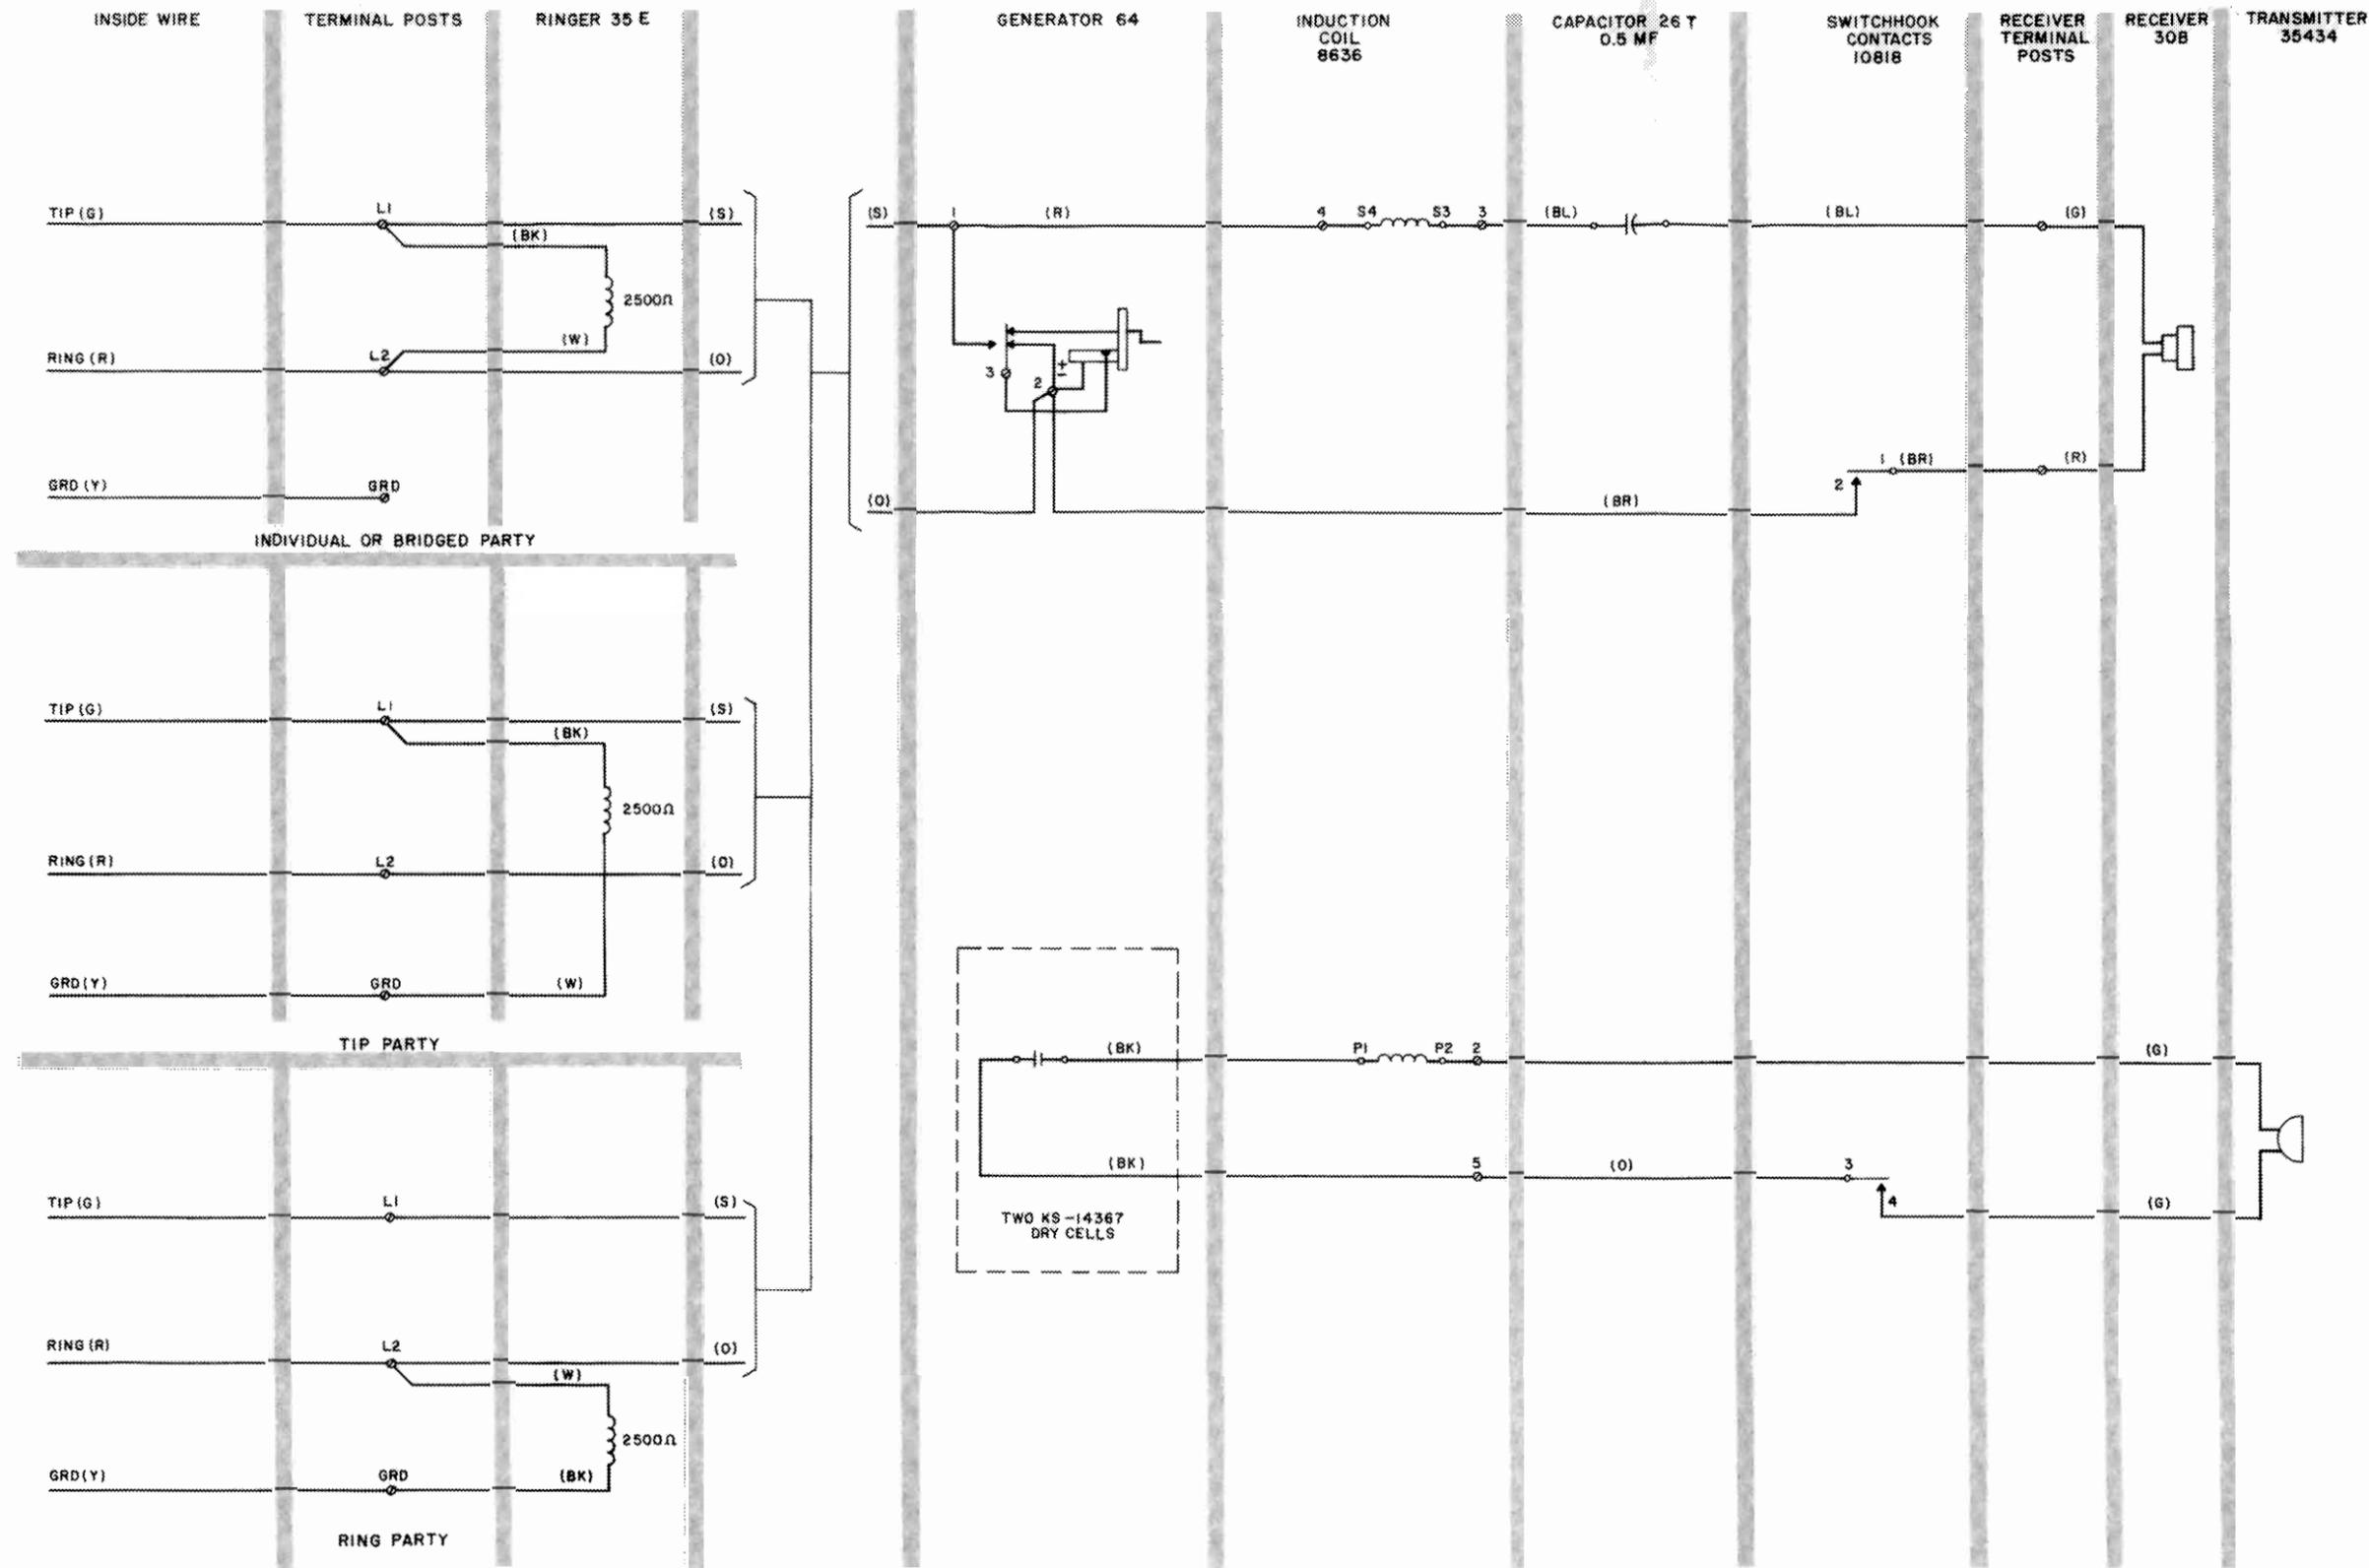

Fig. 4 - KS-19148, List 1 Telephone Set, Circuit Diagram
**3.06** Run wire through conduit into the terminal box. Connect leads on terminal posts (Fig. 4). The front post is L2, the middle post is GRD, and the back post is L1.
The ringer leads are soldered to spade tips which are connected to the L1 and L2 terminal posts (Fig. 4) in the interior of the set. To connect the ringer for tip or ring parties, it will be necessary to unsolder the proper lead and solder it to the spade tip on the GRD terminal.